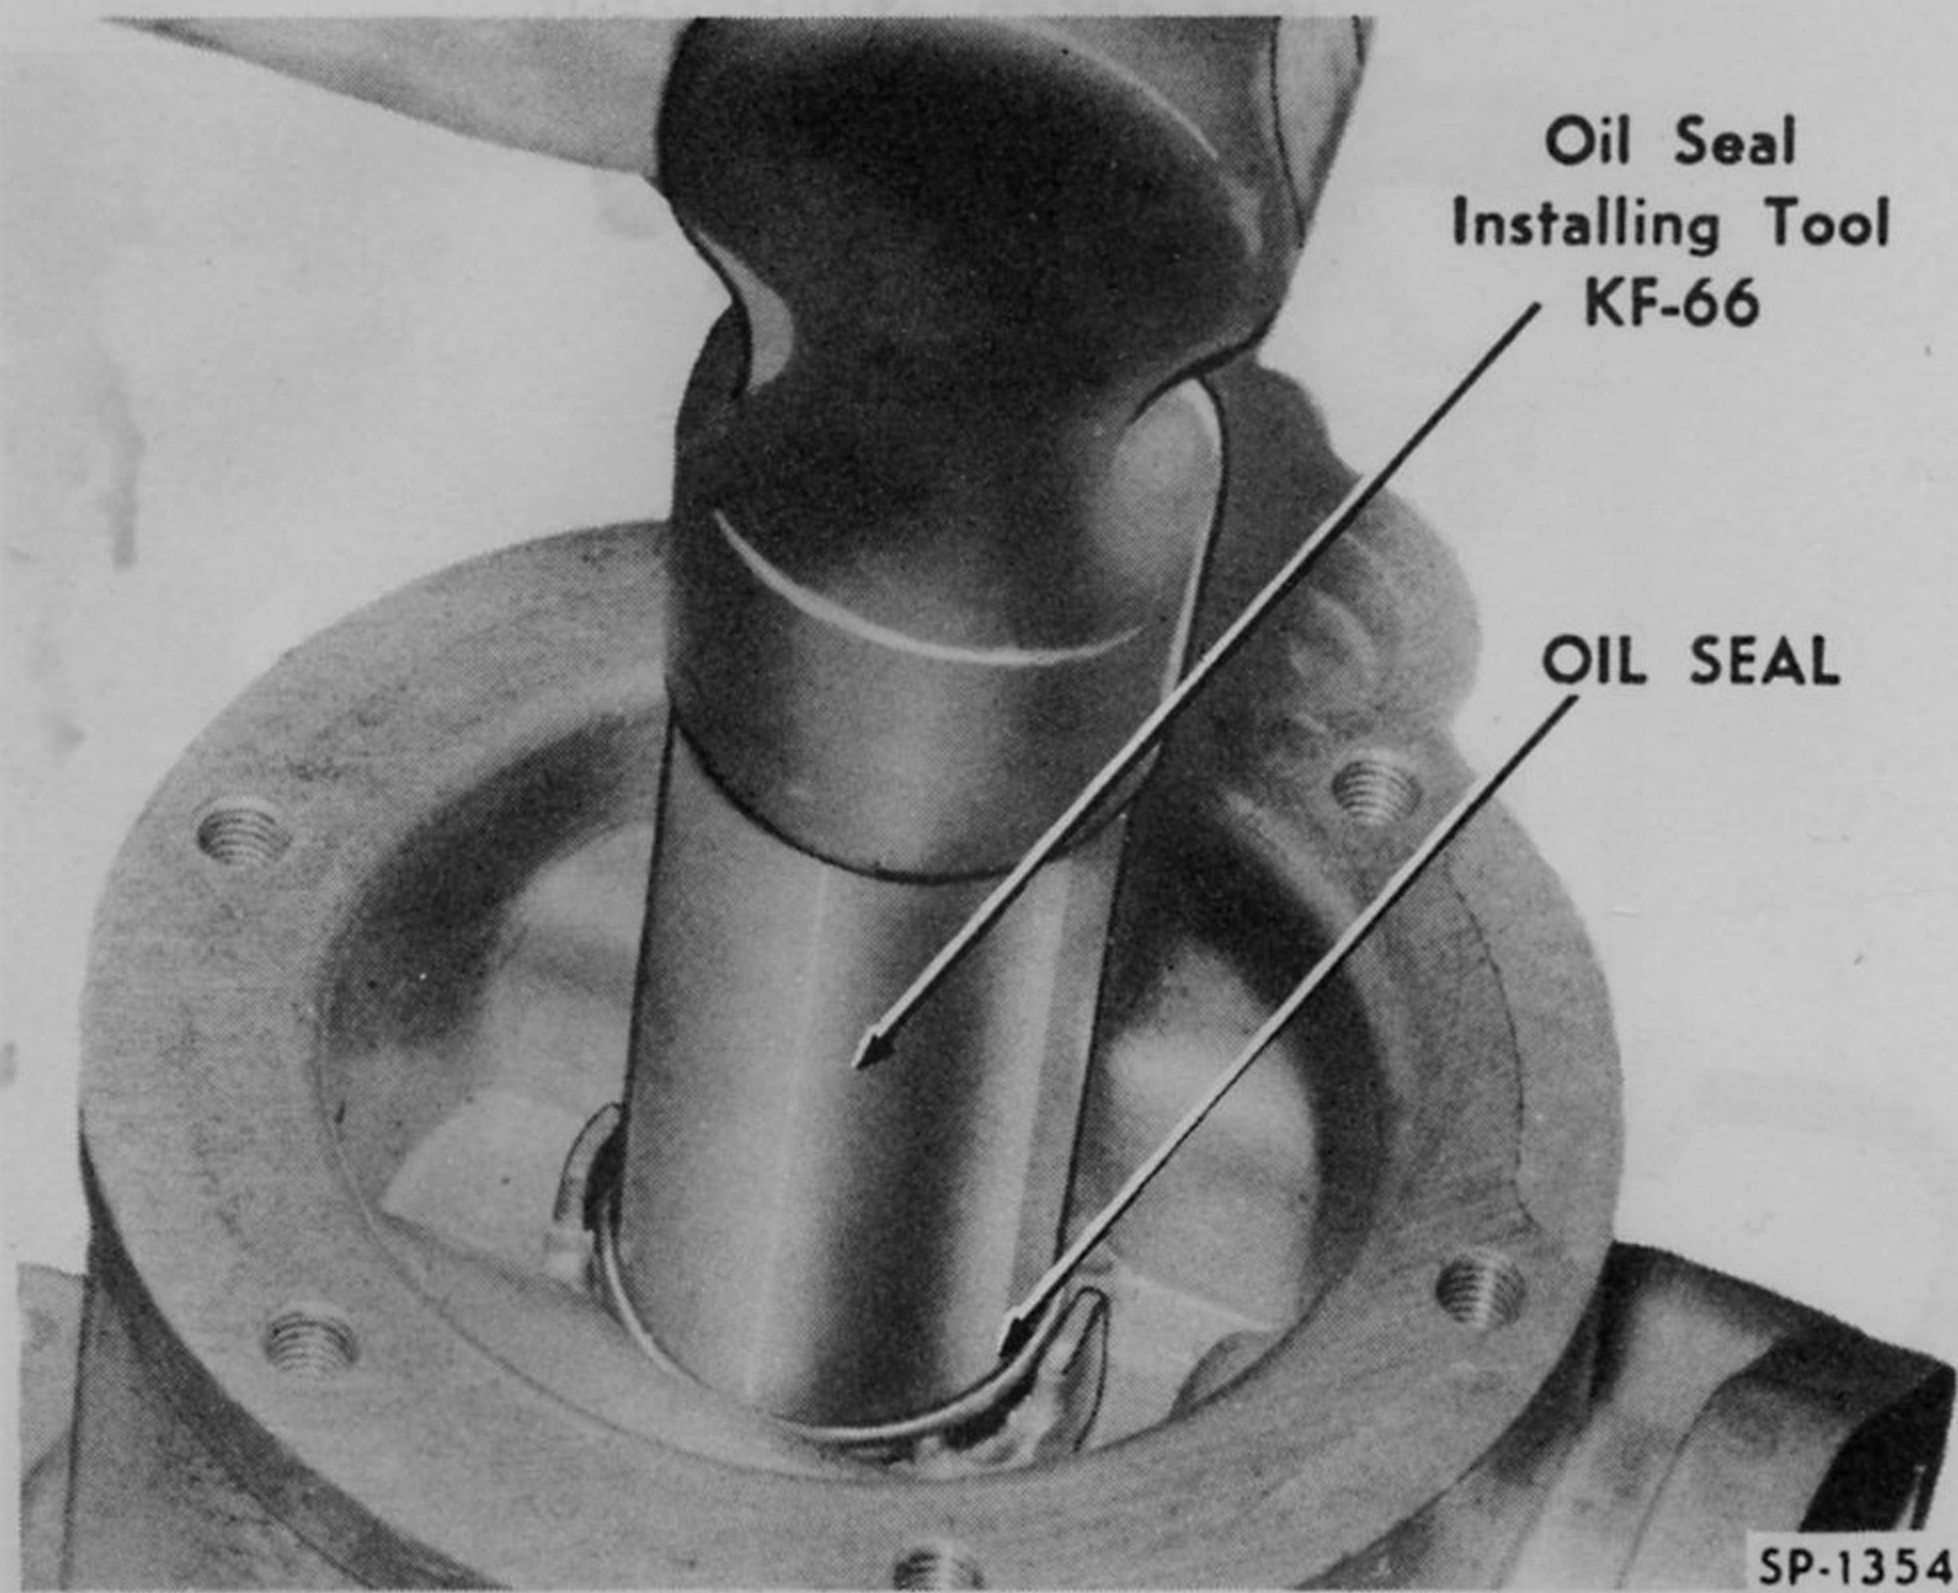
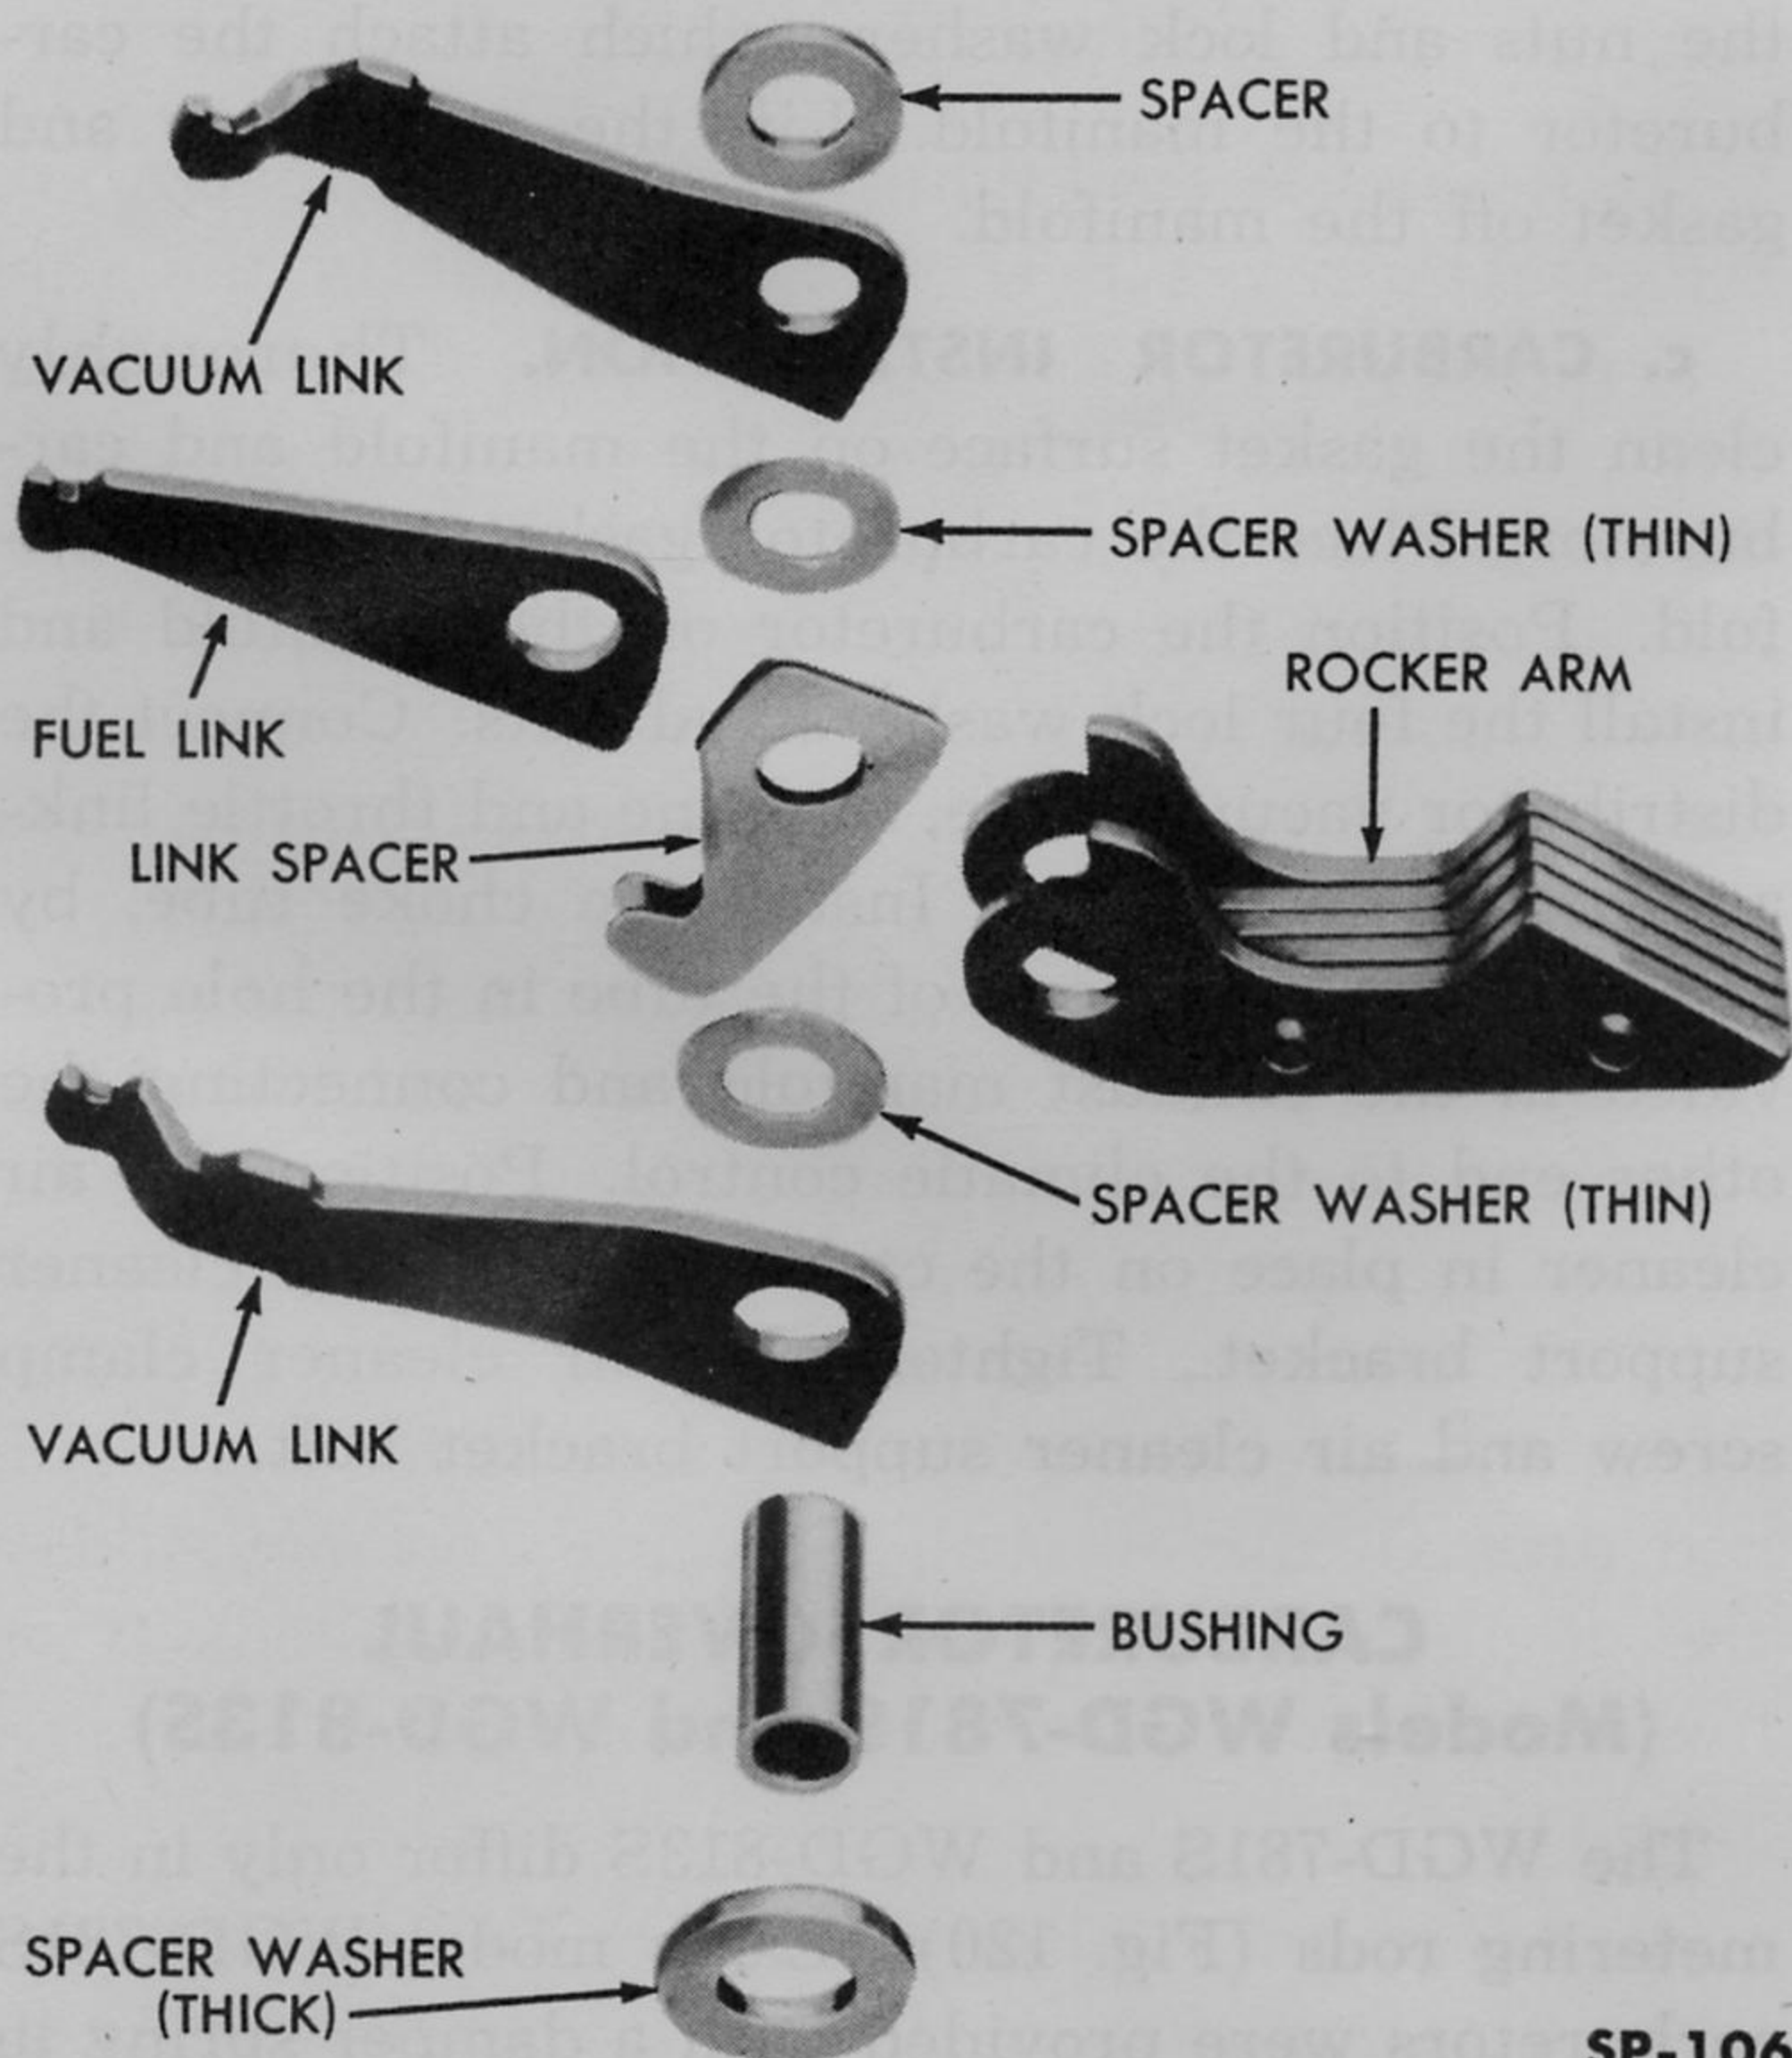

Fig. 117—Installing Fuel Pump Body Oil Seal
Fig. 118—Rocker Arm Linkage—Exploded View
2. Assemble Fuel Pump Body. If the oil seal was removed, position the oil seal gasket and oil seal with the metal side facing up. Drive the seal into the body with Seal Installing Tool KF-66 (Refer to Fig. 117). Stake the seal in place with a punch. Compress the diaphragm spring retainer and spring in the body, then connect the inner rocker arm to the diaphragm shaft. Position the outer rocker arm in the body. Align the rocker arm pin holes with the pin hole in the body, then install the rocker arm pin. Place the small flat washer on the rocker arm pin, then stake or peen the end of the pin. Install the rocker arm spring.
3. Assemble Fuel Pump Body. If the seals were removed, place a new oil seal gasket in the fuel side of the body. Position the oil seal in the body with metal side of the seal facing upward. Drive the oil seal into the recess with installing tool No. KF-66 (Fig. 117). Stake the seal in place with a punch. Install the second oil seal in the same manner with the rubber side of the seal facing toward the inner side of the body. Assemble the rocker arm and linkage as shown in Fig. 118. Hold the rocker arm in place in the fuel pump body and install the rocker arm pin. Position the small washer on the pin and peen the end of the rocker arm pin. Position the spring retainer and spring on the fuel diaphragm. Carefully push the fuel diaphragm pull rod through the oil seal, then press on one side of the diaphragm to tilt the pull rod and hook it on fuel link. Install the vacuum diaphragm in the same manner.